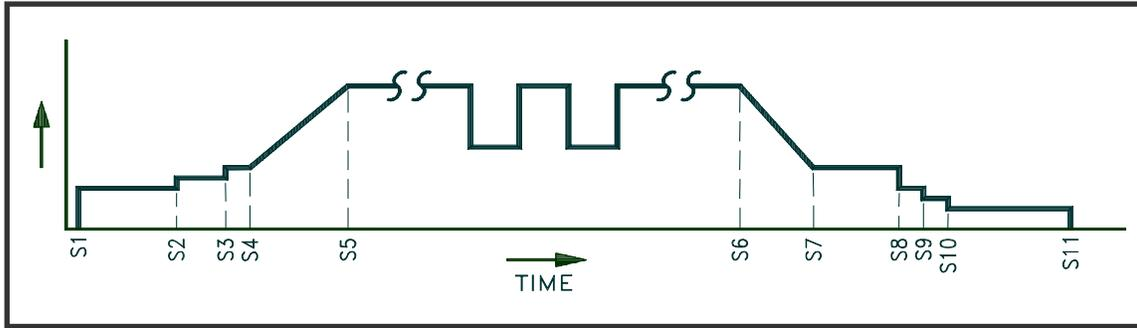

Figure 2
The WSC provides the user with ten (10) programmable events that comprise the weld cycle. Individual events can be disabled by setting the corresponding time to zero (0). Figure 2 shows the various weld cycle events. In conjunction with the weld events the user can specify a pulse mode of operation. In this mode the WSC will provide a synchronized pulse of the remote power supply, Wire feeder and Travel speed. The user can disable any individual pulse output function.